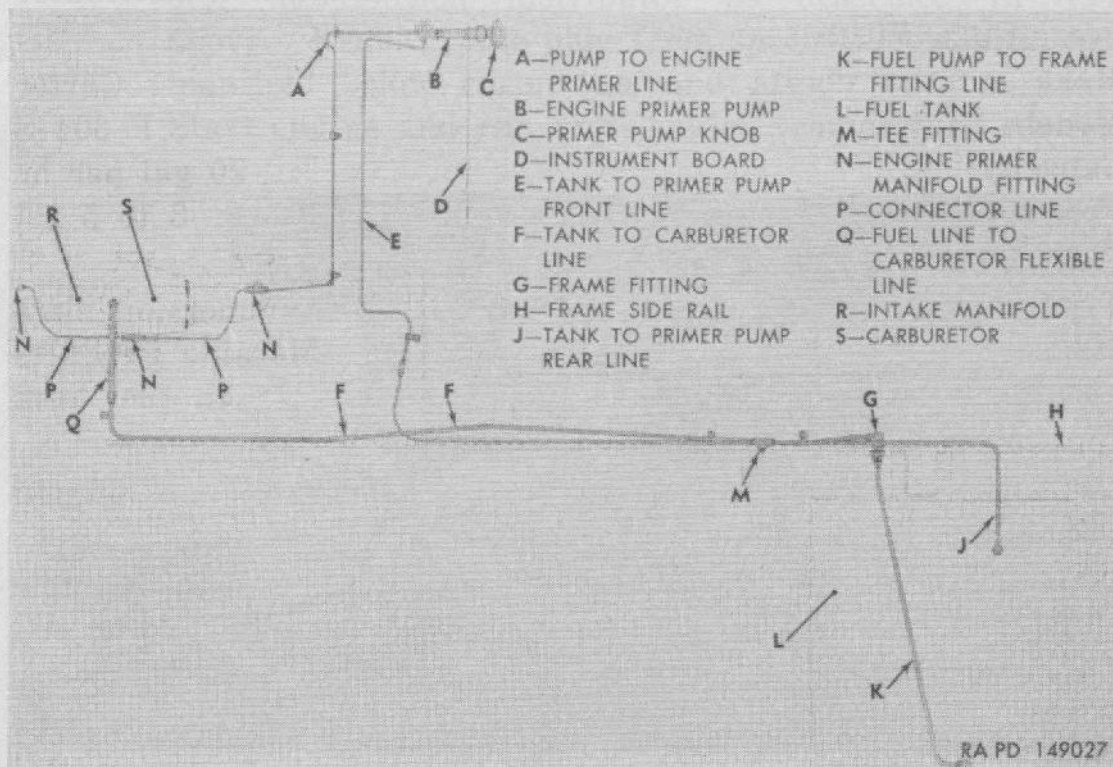

Figure 55. General arrangement of fuel system units.
a. DESCRIPTION. Units which comprise fuel and air intake system include: carburetor and governor system, carburetor controls, air cleaner assembly, fuel tank and lines, electric fuel pump assembly, and engine primer pump and lines. General arrangement of fuel system major items is shown in figure 55. Manifold heat control and chassis unit vent and breather line system, which are related to fuel and air intake system operation, are also described in this section. Electric fuel gage indicates fuel level in tank.